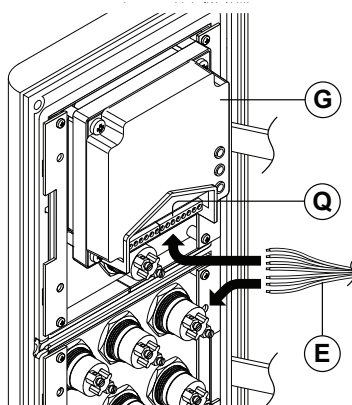
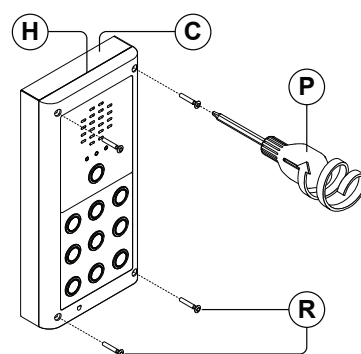

Fig. 56
Fig. 57
8. Take the cable wires **(E)** and make the required wiring connections into the terminals **(Q)** on the back of the module **(G)**, as shown in **Fig.56**, using the screwdriver provided **(P)** (from **Fig.57** and using the flat blade end);
10. After the system has been tested and is working correctly, move back the module support frame **(H)** carefully and then fix it to the surface box **(C)** using the screwdriver provided **(P)** (using the torx end) and the torx pin security screws provided **(R)**, as shown in **Fig.57**. **Note: do not over tighten the screws more than is necessary.**